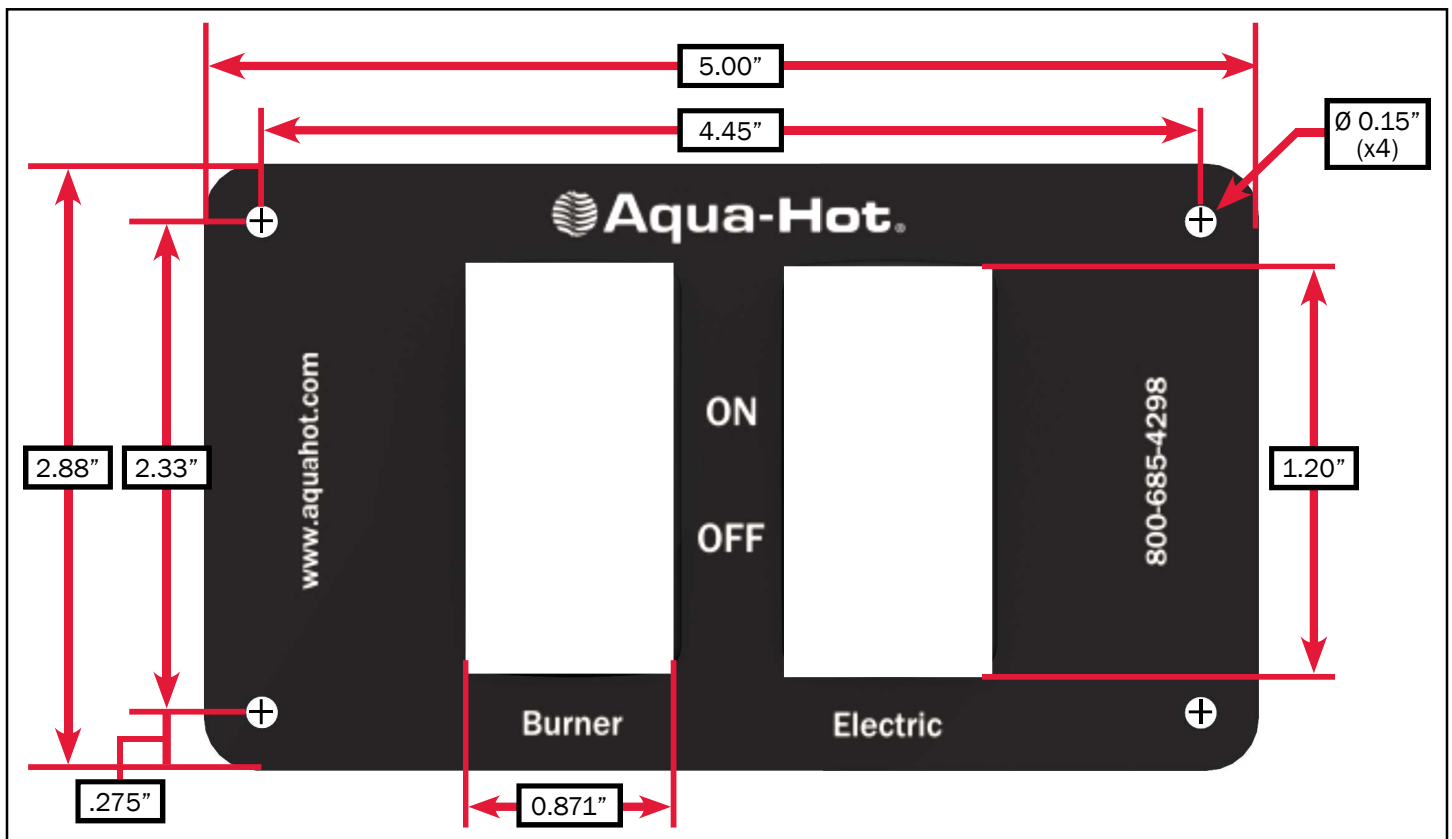

Figure 29
1. Cut out a 3.75" W x 1.25" H opening for the switch panel plate. Reference Figure 29.